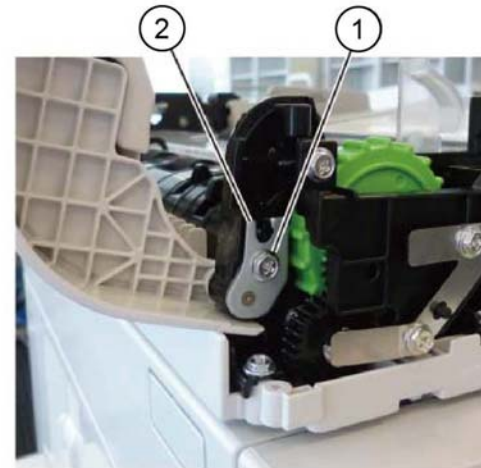

Figure 1 Front hinge bracket removal
3. Remove the front hinge bracket, Figure 1:
- a. Remove the screw (1).
- b. Remove the front hinge bracket (2).